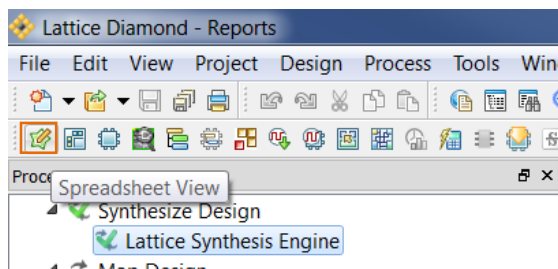

Figure 4.2. Spreadsheet View Button
2. Click the **Spreadsheet View** button or open it from the **Tools** menu on top of the ribbon, as shown in Figure 4.2, to open the Spreadsheet View tab where you can edit the configuration properties of the device.